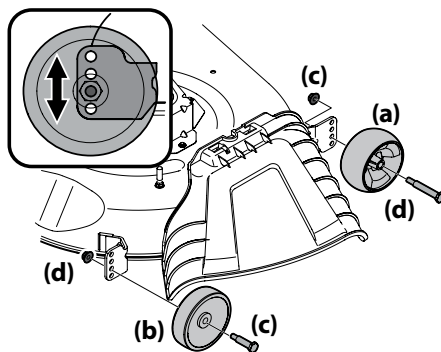

Figure 2-19
- b. Remove the front (a) and rear (b) deck wheels by removing the flange lock nuts (c) and shoulder bolts (d) that secure them to the deck. See Figure 2-19.